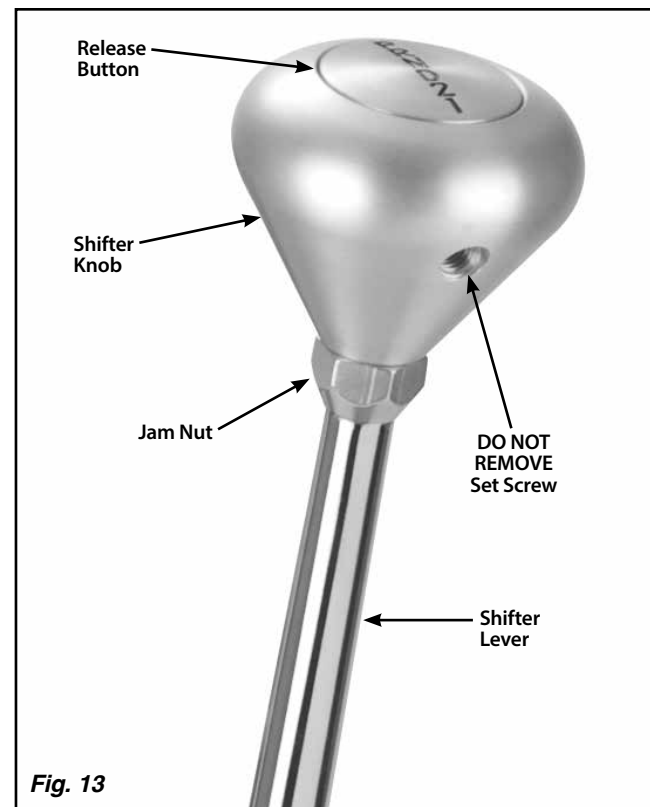

Fig. 13
Step 2: Loosen the jam nut below the shifter knob. **DO NOT** loosen or remove the set screw that is in the knob. **Fig. 13**